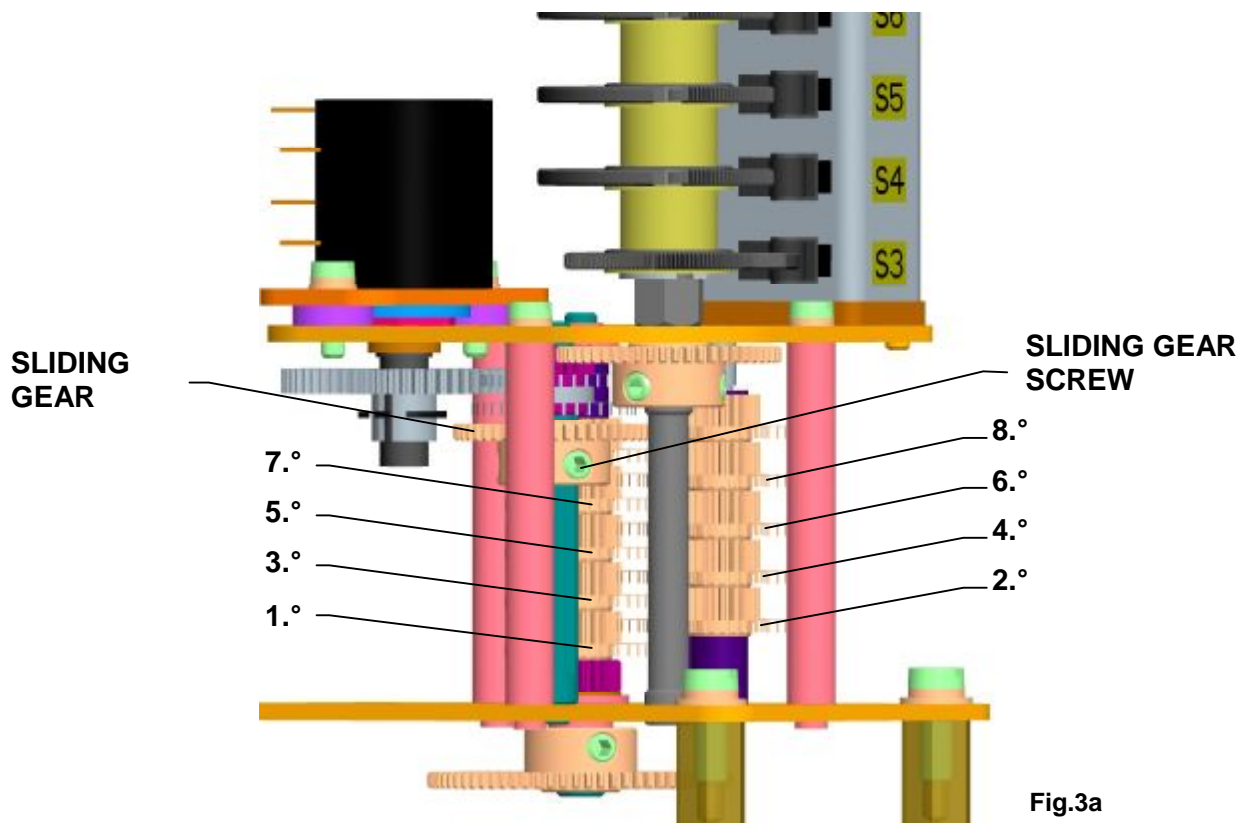

Fig.3a
- set the adjustment wheel to the required degree of the range according to **table 5** and **Fig.3a** by loosening of the adjustment wheel screw and re-tightening after alignment. When adjusting the adjustment wheel, make sure there is correct alignment with the second level disc.
- loosen the nut (22) with simultaneous holding the central milled nut (23) and then loosen the nut (23) fixing the cams still having the belleville springs which create axial thrust;
- reset the EA to the "Open" position and rotate the cam (29) clockwise (when viewing the actuating plate from above) until switch S3 switches over (25);
- reset the EA by the angle where the "Open" position is to be indicated and turn the cam (31) clock-wise until switch S5 switches over (27);
- reset the EA to the "Closed" position and turn the cam (28) counter clockwise until switch S4 switches over (24);
- reset the EA back by the angle where the "Closed" position is to be indicated and turn the cam (30) counter clockwise until switch S6 switches over (26);
- once the EA is adjusted manually tighten the central milled nut (23) to lock the cams and tighten the lock nut (22) while simultaneous holding the milled nut;
- swing the position indicator discs (31) for the given operating stroke against the gauge mark on the top cover sight;